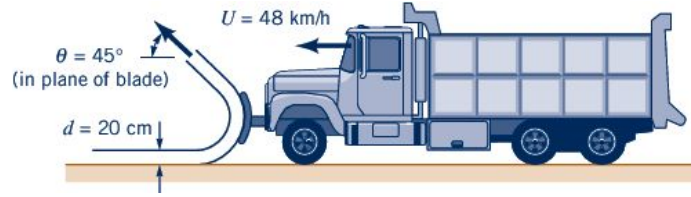

Figure 10: See problem 5.
**Problem:** A snowplow mounted on a truck clears a path of  $3.6\text{ m}$  width through heavy wet snow, as shown in Figure 10. The snow is  $20\text{ cm}$  deep and its density is  $160\text{ kg/m}^3$ . The truck travels at  $48\text{ km/h}$ . The snow is discharged from the plow at an angle of  $45^\circ$  above the horizontal, as shown in Figure 10. Estimate the force required to push the plow. Note that the problem is two-dimensional.